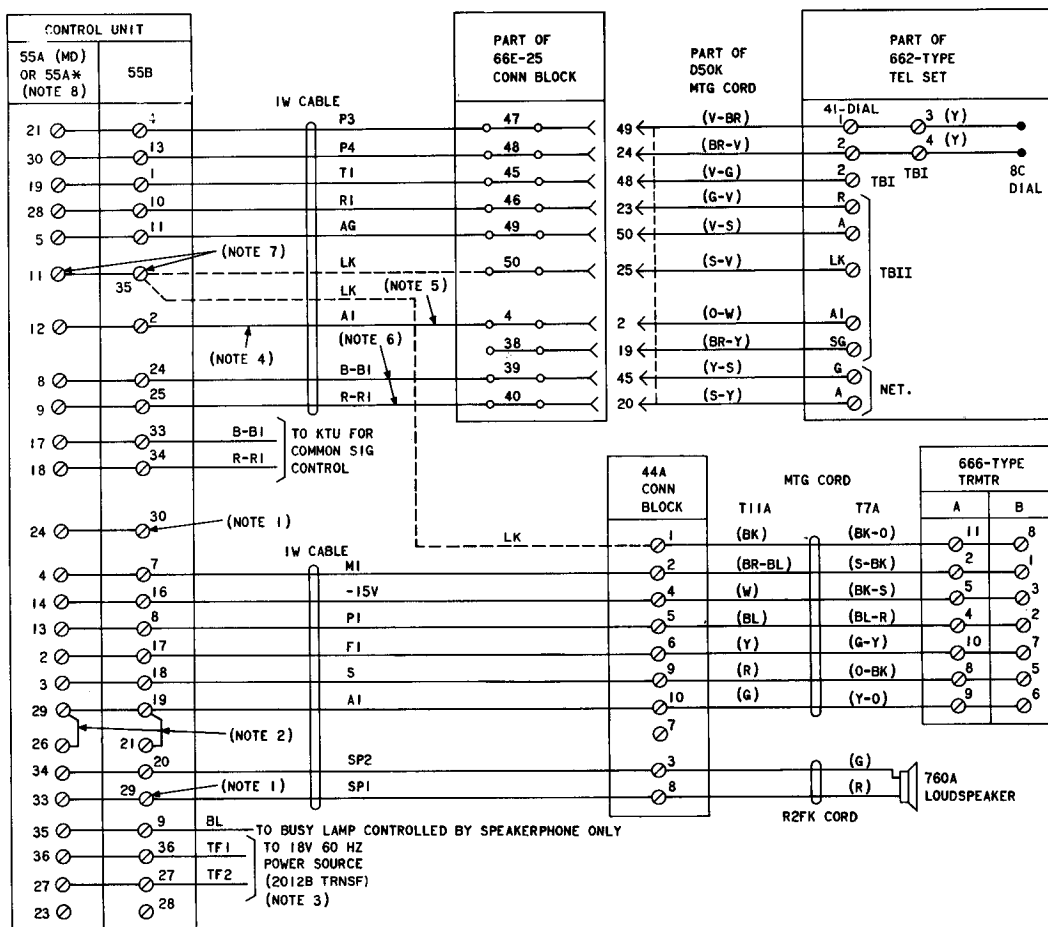

Fig. 1—662-Type Telephone Set, Connections
2.03 Sets are presently being manufactured with an 8R dial which must be replaced with an 8C dial when speakerphone is supplied. In addition straps must be added from 1 and 2 of the 41-type dial terminal board to 3 and 4, respectively, of TB1 to parallel the P3 and P4 leads with the off-normal contacts of the 8C and 41-type dials (Fig. 1).